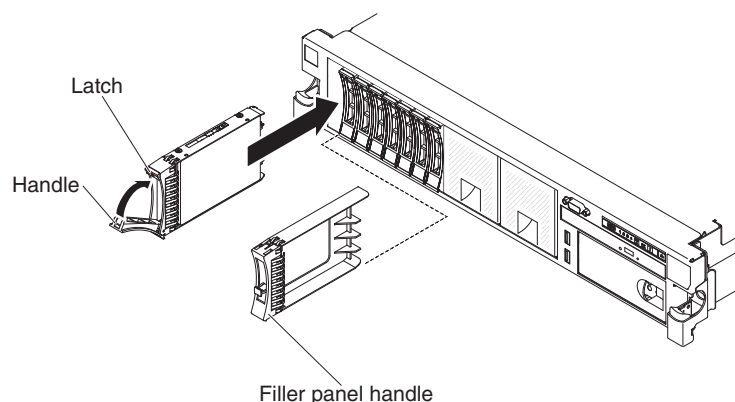

Figure 130. Replacing a SAN Volume Controller 2145-DH8 boot drive
4. Make sure that the disk-drive handle is in the open (unlocked) position, as shown in Figure 130.